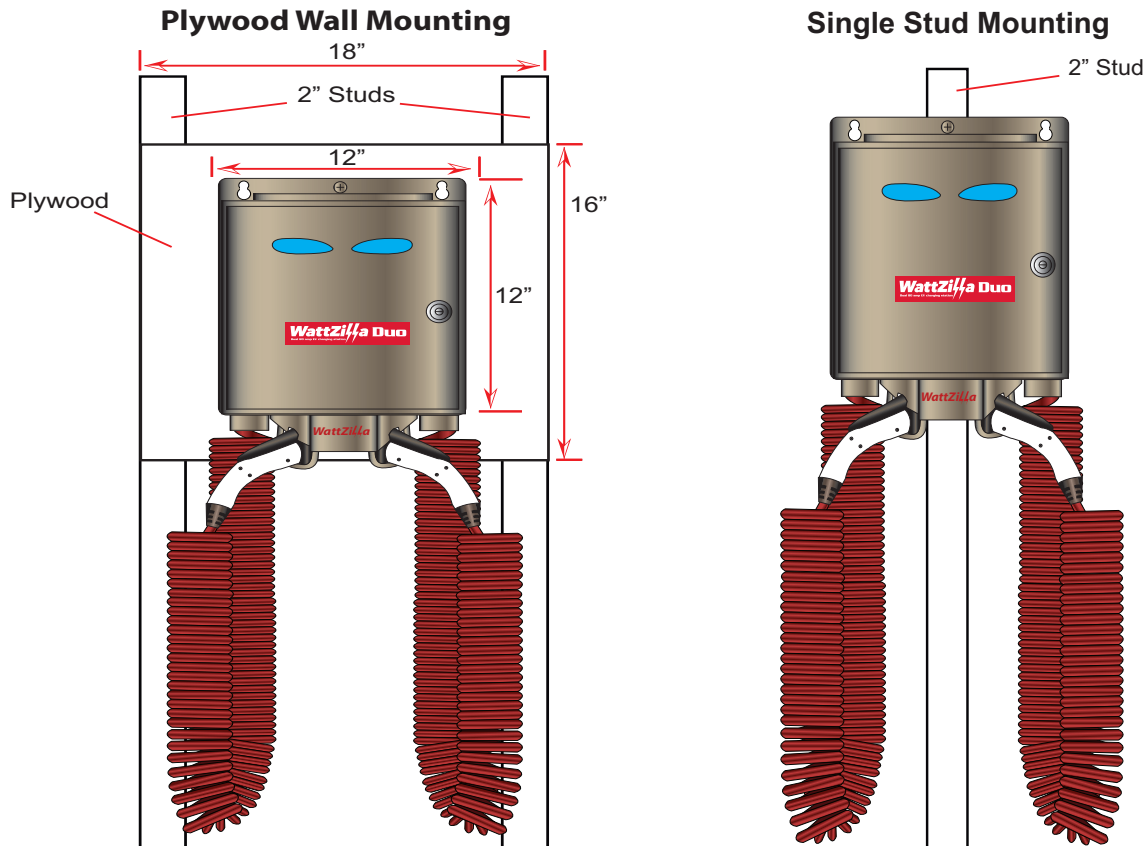

Figure 2. WattZilla Wall Mounting Options
1. Choose the appropriate installation method (step 1a or 1b), and then proceed to the next step for detailed instructions (reference Figure 2):